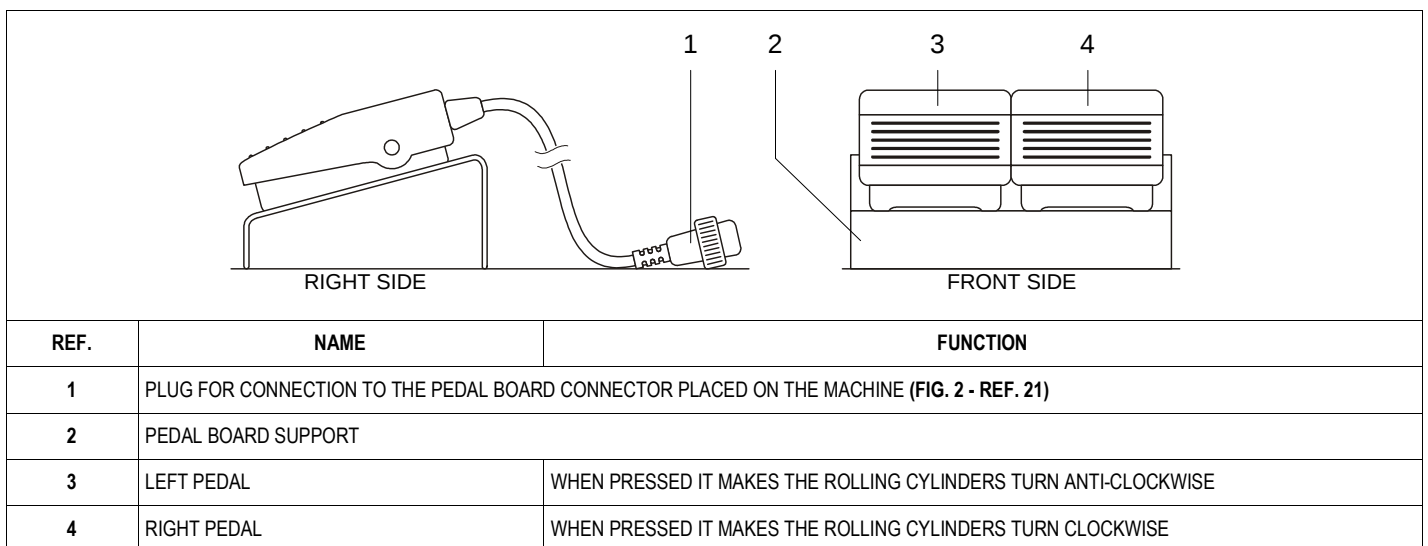

FIG. 10 (Inversion pedal board)
2) (Only for mod. 2 V) If necessary, select the processing speed by turning the speed selector to the "1" or "2" pos. (FIG. 10 - Ref. 1);
3) Put the general electric switch in the "I" (ON) pos. (FIG. 10 - Ref. 2);
4) (Only for mod. VAR 1 PH) If necessary select the processing speed by using the control panel (see FIG. 10);
6) Adjust the desired dough thickness using the handle (FIG. 10 - Ref. 3);
7) (Only for mod. 1 V - 2 V - 1 PH) Start the machine by pressing the "START" button (FIG. 10 - Ref. 6);
8) (Only for mod. VAR 1 PH) Start the machine by pressing the "START" button (FIG. 10 - Ref. 11);
9) Choose the movement direction of the conveyor belts using the joystick (FIG. 10 - Ref. 5);
11) Once the desired thickness has been reached (end of cycle), wait for the dough to come completely out of the rolling cylinders (FIG. 2 - Ref. 24) and put the joystick into "0" pos. (FIG. 10 - Ref. 5);
1) Switch the machine off, putting the general electric switch in the "0" (OFF) pos. (FIG. 10 - Ref. 2);
The emergency stop can be carried out by pressing the “Emergency stop” button installed on the control panel (FIG. 10 - Ref. 4). In order to prevent dangerous situations happening immediately or being caused, the trained operator must perform the operations shown in TAB. 15.